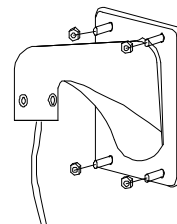

Figure9
- 3) Fix the bracket on the wall with the M6 (see Figure 9).